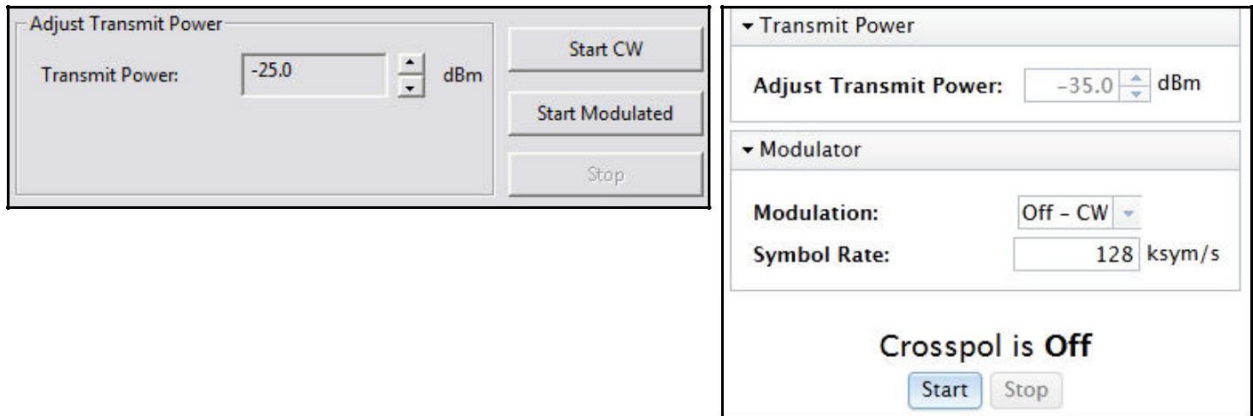

Figure 50. Adjusting Transmit Power using iSite and Web iSite
If using iSite, perform this procedure in the **Adjust Transmit Power** section of the Cross Polarization dialog box. If using Web iSite, perform this procedure in the **Transmit Power** section of the Cross Polarization page. Both options are shown in Figure 50.
3. Start the **Transmit Power** at the CW P1dB power level. (Refer to Figure 50 on page 87.)